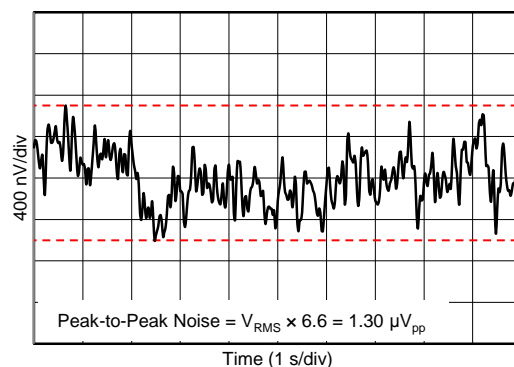

Figure 22. 0.1-Hz to 10-Hz Noise
0.1-Hz to 10-Hz Noise	Figure 22